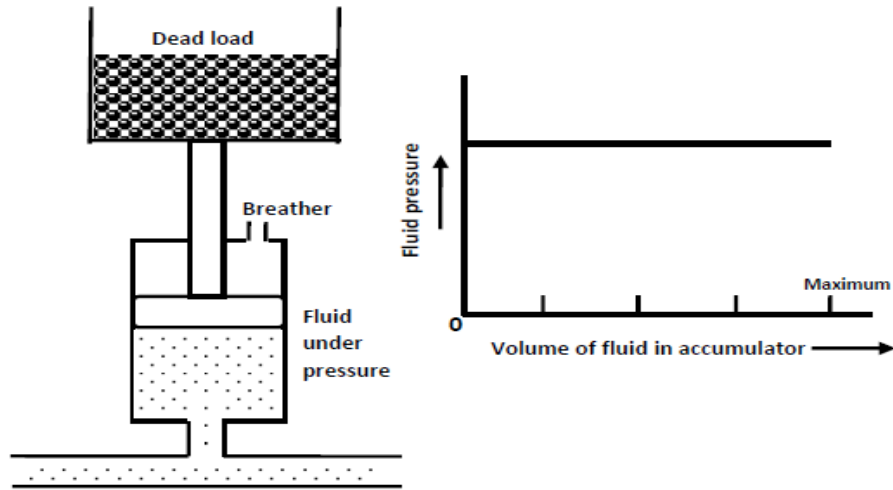

Figure 1.1 Dead weight accumulator.
1. Weight-loaded or gravity accumulator: Schematic diagram of weight loaded accumulator is shown in Fig. 1.1. It is a vertically mounted cylinder with a large weight. When the hydraulic fluid is pumped into it, the weight is raised. The weight applies a force on the piston that generates a pressure on the fluid side of piston. The advantage of this type of accumulator over other types is that it applies a constant pressure on the fluid throughout its range of motion. The main disadvantage is its extremely large size and heavy weight. This makes it unsuitable for mobile application.